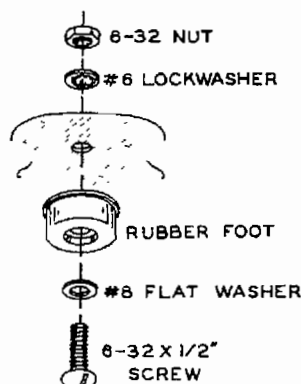

Figure 14B
- (✓) Refer to Figure 14B and mount the rubber feet in the holes in the bottom of the cabinet. Use 6-32 x 1/2" screws, #8 flat washer, #6 lockwashers and 6-32 nuts.